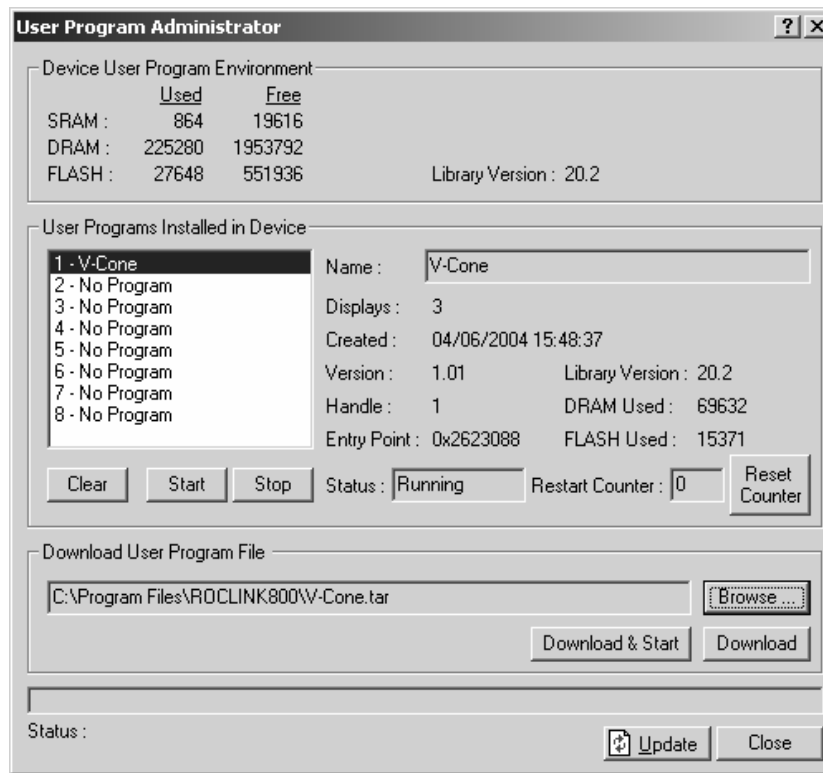

Figure 1. Viewing Memory in ROCLINK
When you select User Program Administrator, a screen appears that shows the free memory available for the application program to be loaded. Refer to Figure 1.
1. In the ROCLINK 800 software User Program Administrator screen, described in Section 2.2, locate the user program file. Refer to Figure 1.